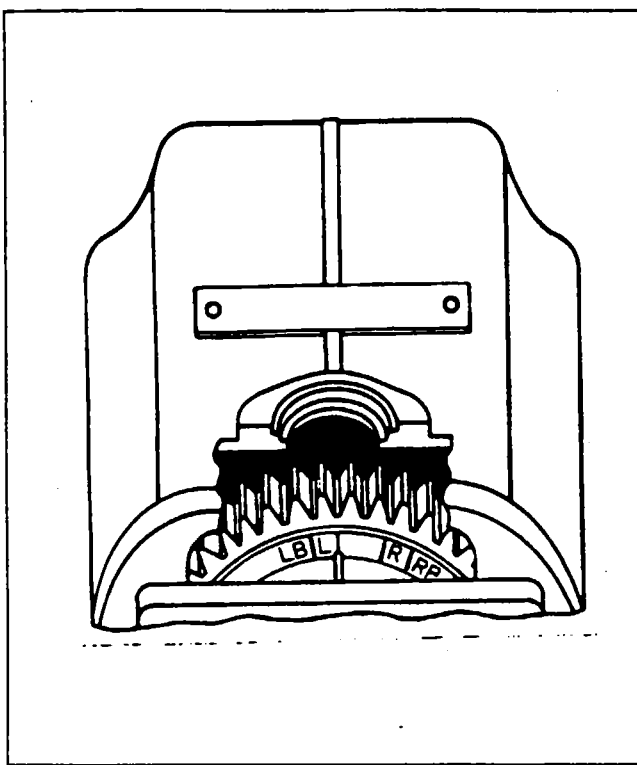

Figure 8-16. Aligning Timing Marks Single Contact Assembly Magneto
2. With distributor gear assembled to block, turn gear until raised rib on block lines up between the L and LB marks. Assemble block and gear into housing, meshing the distributor gears together. For the dual contact assembly magneto, distributor block rib must align between painted marks. However, the rib should favor the LB mark, if possible. (Refer to Figure 8-16.) On the single contact magneto the rib should favor the L mark.